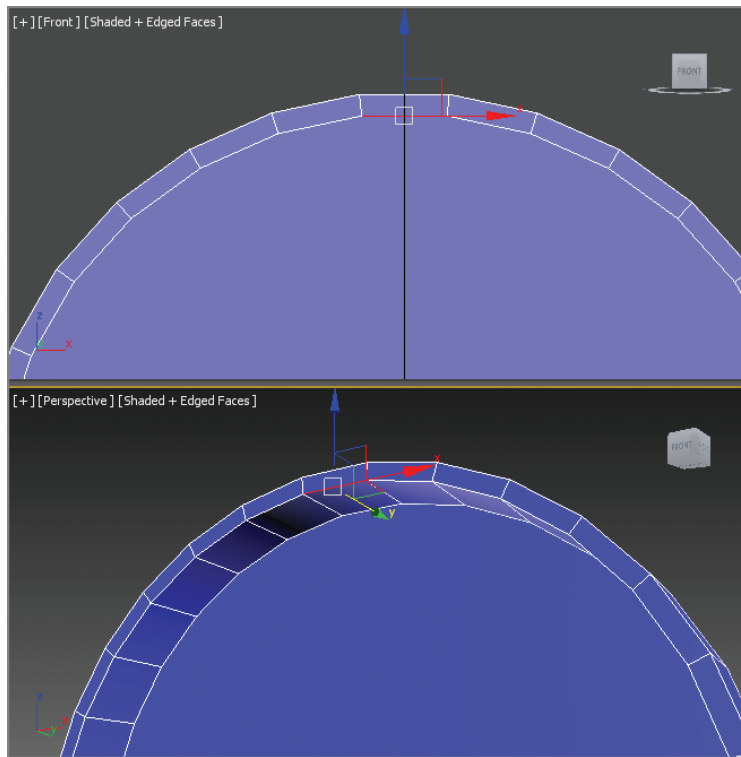

FIGURE 2.11 Select the edge shown in this image.
4. Select the edge shown in Figure 2.11.